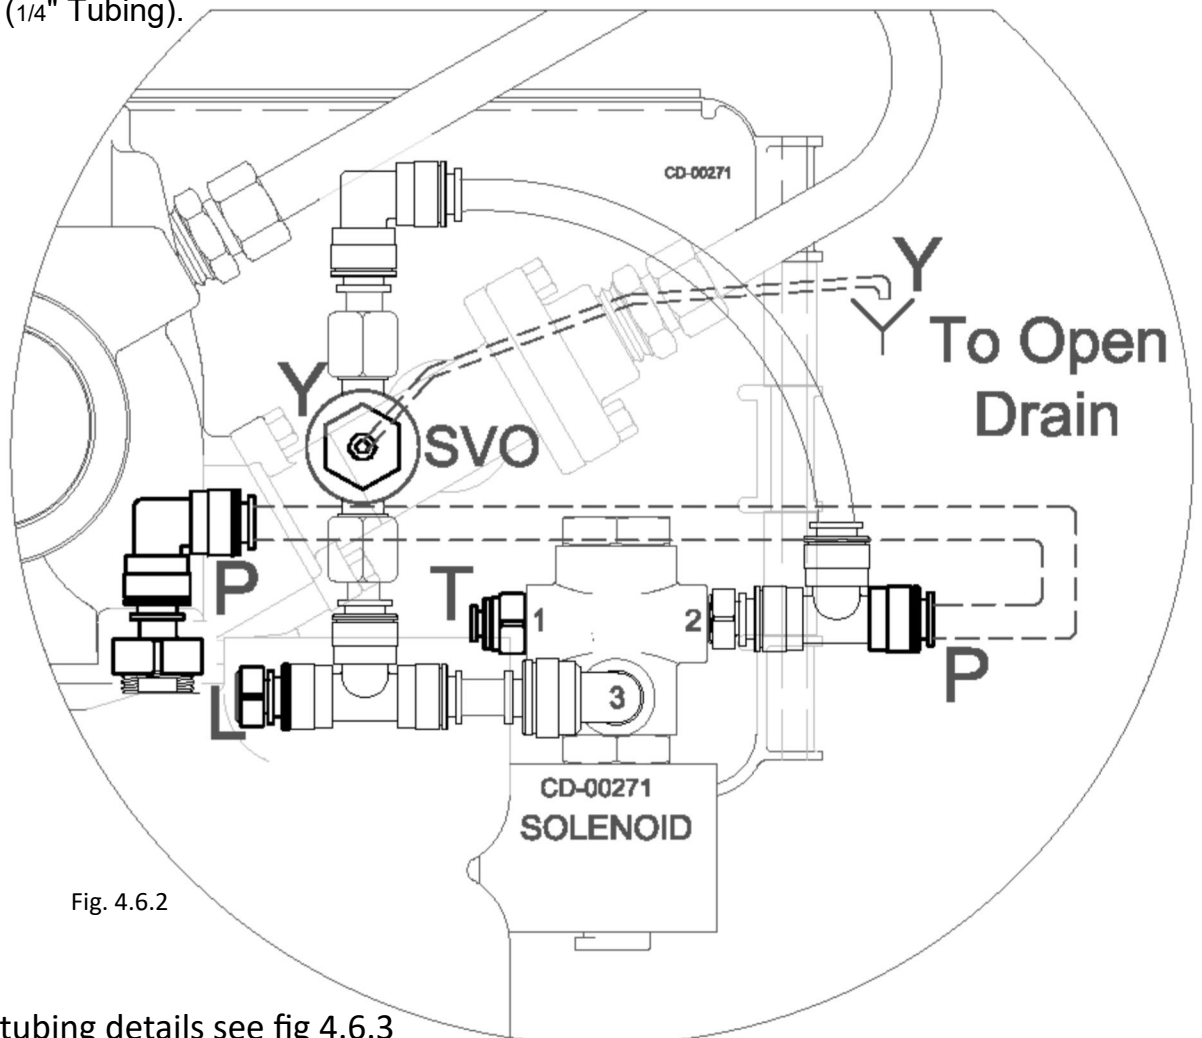

Fig. 4.6.2
-There are four tubing connections required (if ordered as a complete system). The connections are labeled as show below in figure 4.6.2.
-The SVO (service valve operator) is mounted on the backplate of the regeneration valve and is mechanically operated by a rotating cam. The three way solenoid valves are electrically operated and depending upon the system, may also be mounted on the regeneration control valve. Connections are shown in figures 4.6.2 and 4.6.3. The pressure supply source must be equal to or higher than the maximum supply water pressure. On the 3150 / F60 versions the supply pressure connection can be on the side mount adapter itself.